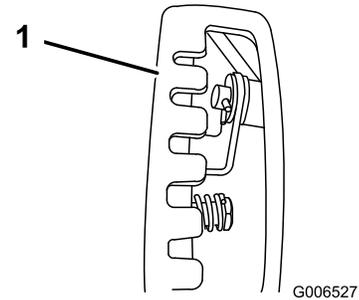

Figure 14
**Note:** For easier installation, look down through the opening in the speed selector (Figure 14).